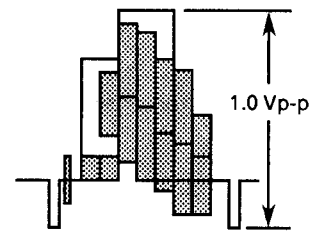

Figure 2-3.
3. Adjust R202 so that the signal amplitude is 1.0Vp-p as shown in Figure 2-3.